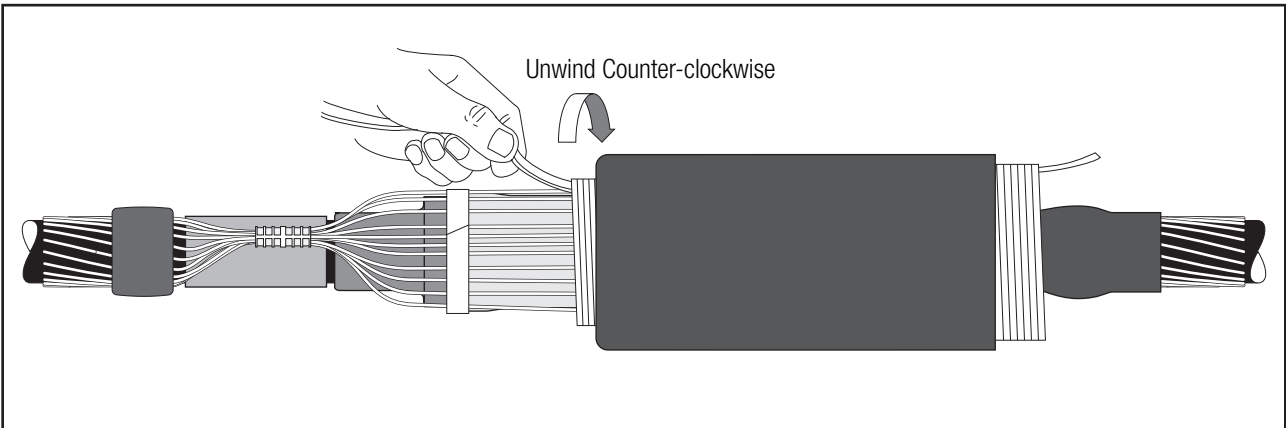

Figure 35
- 9.1 Begin to install the cold shrink tube by completely covering the rubber mastic, and slowly pulling and unwinding the inner core counterclockwise toward the splice body. The outer core should remain relatively stationary while unwinding the inner core. If the outer core begins to move towards the first mastic seal, gently pull the outer core and jacketing tube towards the second mastic seal and continue unwinding the inner core (*Figure 35*).